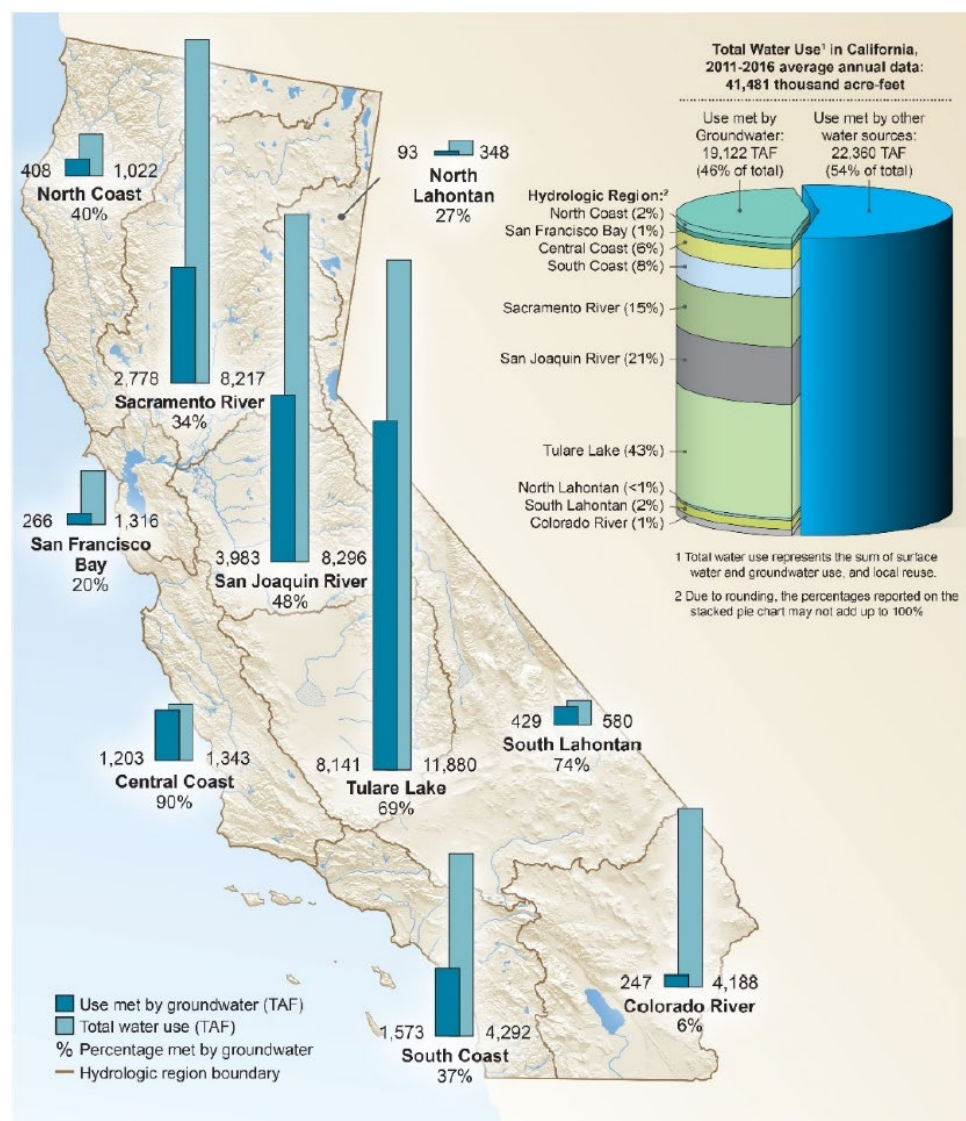

Figure 2. Total water use in California, 2011-2016 average annual data (California Groundwater Update 2020).
- About 82% of Californians (33 million) depend on groundwater for some portion of their water supply (Figure 2).